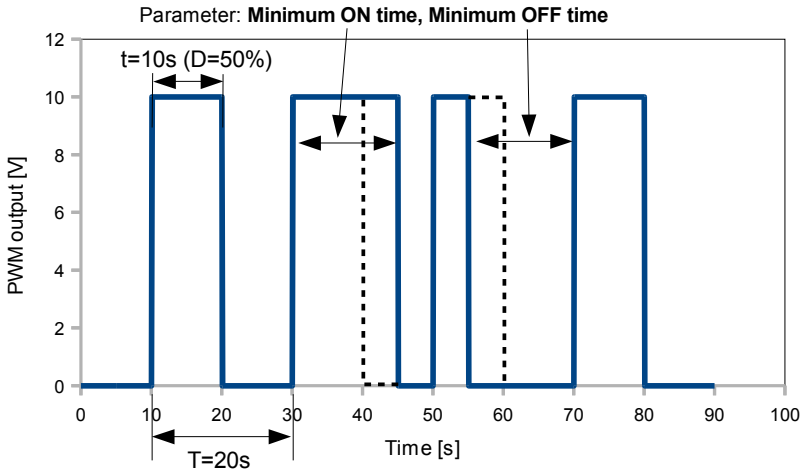

Fig. 7.90. Sample of output signal of OC-type relay in PULSE mode
- **Minimum ON time** - minimum duration of a high state (after switching to a high state, switching back is possible after **Minimum On time**), see Fig. 7.90,
- **Minimum OFF time** - minimum duration of a low state (after switching to a low state, switching back is possible after **Minimum OFF time**), see Fig. 7.90,